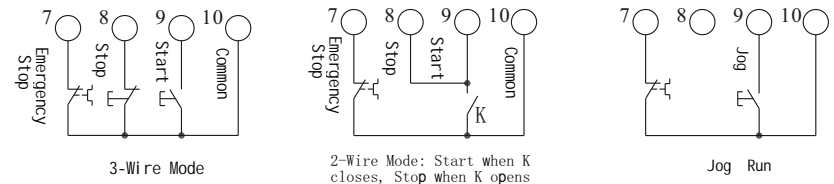

Figure 5
- b) Terminals ① and ② are Bypass Output: Used to control the bypass contactor. These are normally open (NO) passive contacts, which close after the start-up process is complete. Contact rating: AC250V/5A.
- c) Terminals ③ and ④ are Programmable Relay Output: The output mode and function are set via parameter FE. These are normally open (NO) passive contacts. For details, refer to the Programmable Relay Output Function Description on Page 8. Contact rating: AC250V/5A.
- d) Terminals ⑤ and ⑥ are Fault Output: These contacts close when the soft starter experiences a fault or power loss, and remain open during normal operation. Contact rating: AC250V/5A.
e) Terminal ⑦ is Emergency Stop Input: This terminal must be shorted to Terminal ⑩ during normal operation of the soft starter. If this terminal is open-circuited from Terminal ⑩, the soft starter will stop and enter fault protection mode. This terminal can be controlled by the normally closed (NC) output of an external protection device. When parameter FA is set to 0 (Primary Protection), this terminal function is disabled.
f) Terminals ⑧, ⑨, and ⑩ are External Control Start/Stop Button Input Terminals. There are two connection methods: 3-wire mode and 2-wire mode, as shown in Figure 5.
g) Terminals ⑪ and ⑫ are 0~20mA DC Analog Output: Used for real-time monitoring of motor current. A full-scale 20mA output indicates 4 times the motor's nominal rated current. A 0~20mA DC ammeter can be connected externally for observation. The maximum load resistance for this output is 300 . Terminals ⑪ and ⑫ are 0~20mA DC Analog Output: Used for real-time monitoring of motor current. A full-scale 20mA output indicates 4 times the motor's nominal rated current. A 0~20mA DC ammeter can be connected externally for observation. The maximum load resistance for this output is 300 .